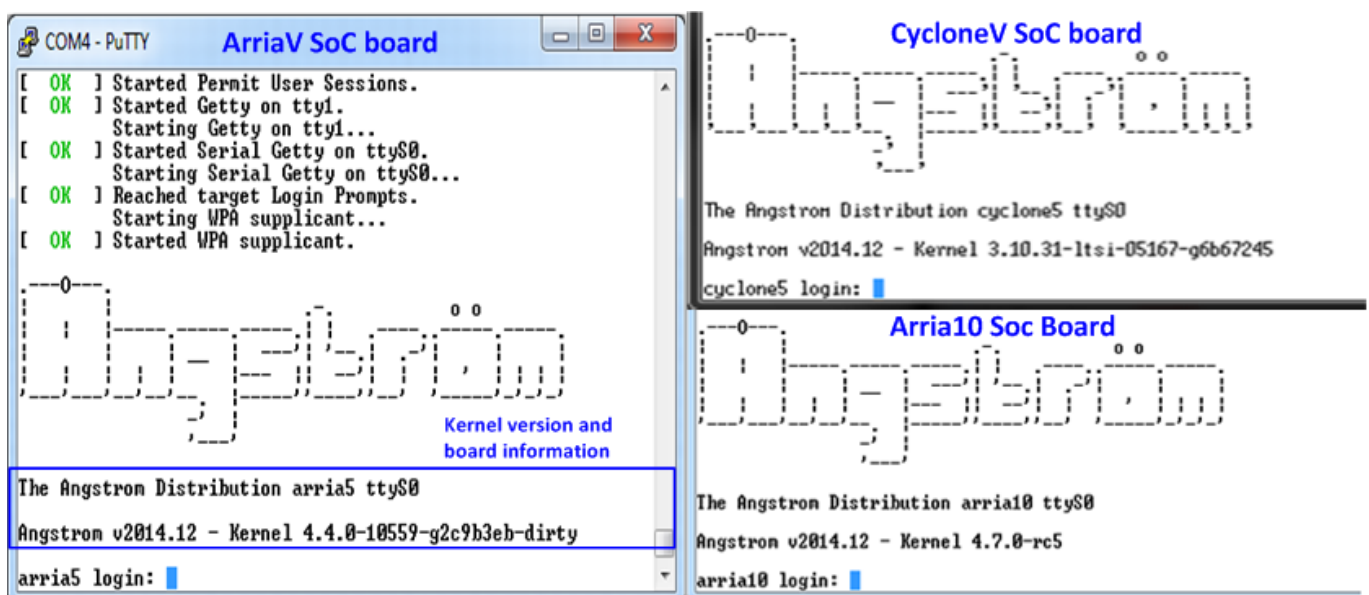

Figure 2-6 Linux Bootstrap
- On PC serial console, please wait Linux boot-up until login required, as shown in Figure 2-6.